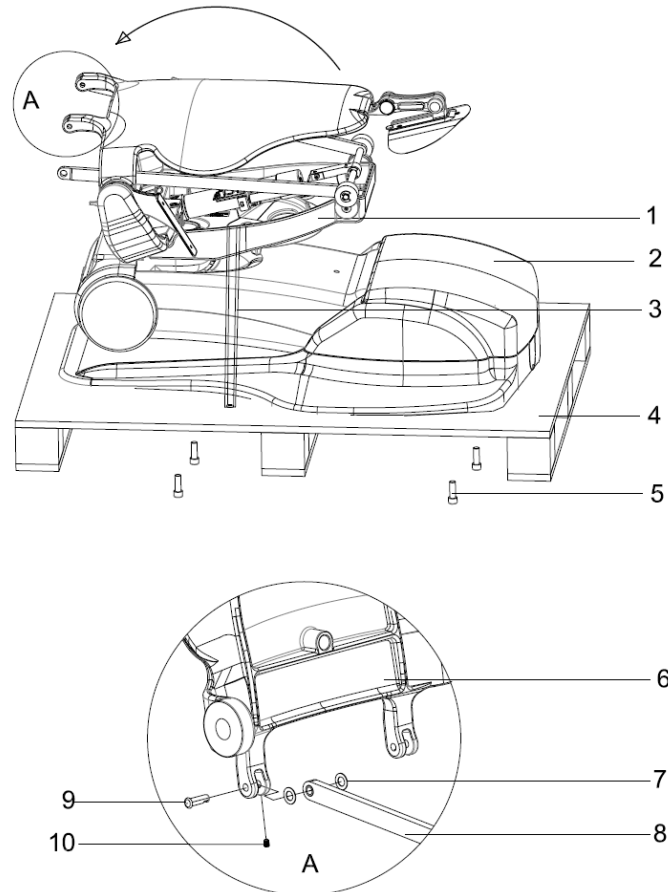

Figure 1. Dental Chair Unboxing and Assembly
2. Use a Philips screw driver to remove 4 shipping screws (5) on the bottom of the wooden shipping pallet (4). Use scissor to cut the shipping straps (3), then move the dental chair (1) from the shipping pallet to the ideal location for installation.
3. Remove the two clevis pins (9) located at the bottom of the backrest (6). Slowly push the backrest (6) upward so that the seat frame support (8) holes aligned inside the back support clevis holes as shown on Figure 1 A. Put the clevis pins (9) through the back support holes and the seat frame support holes on both sides. Do not forget to put a nylon washer (7) on both sides of the seat frame as shown on Figure 1 A.
4. Verify that the clevis pin installed correctly on both sides; then secure them with setscrews (10).